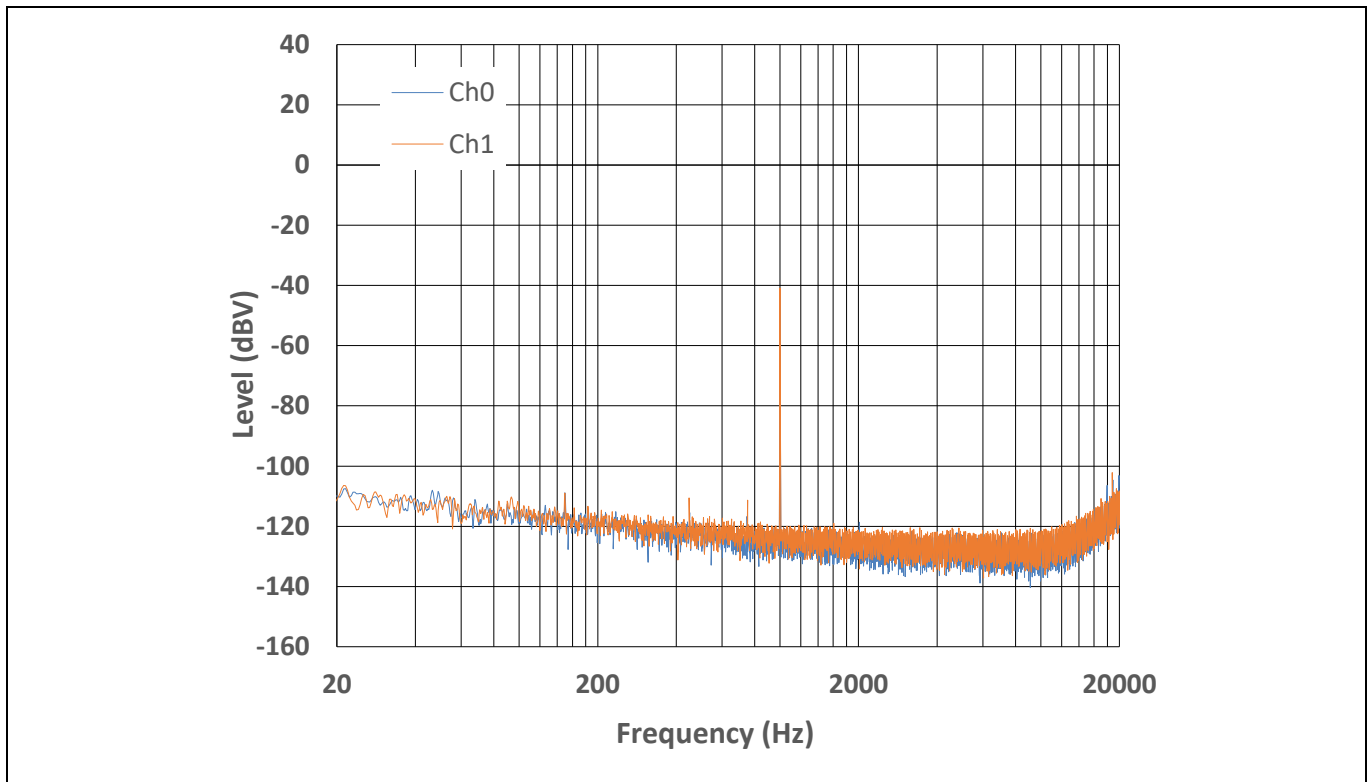

Figure 10 Output FFT spectrum
The Figure 10 shows the output spectrum that has been obtained by applying 1 mVrms (1 kHz) input signal to both channels. This gives an output signal of -40 dBV. The noise floor for these settings is shown in the Figure 10. The integrated, A-weighted noise floor number for both channels is 70  $\mu$ Vrms (AW).